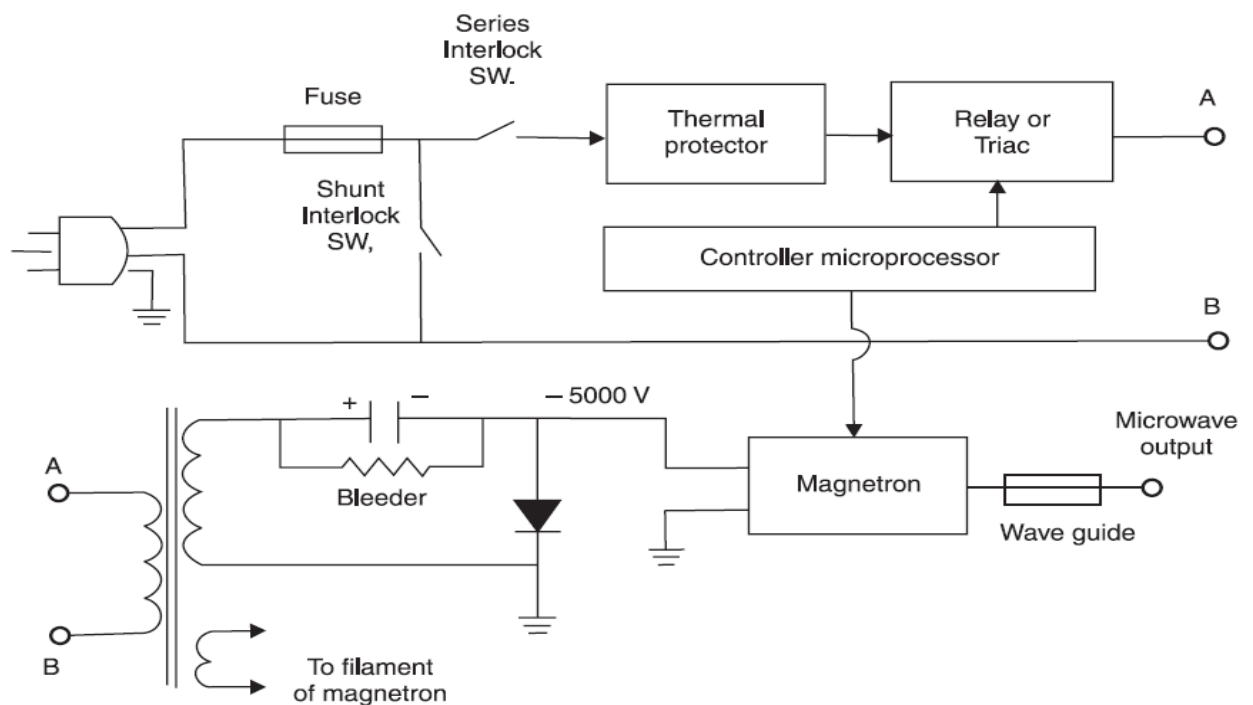

Fig. 1.4 Functional block diagram of a microwave oven
1. The block diagram of a microwave oven is given in Fig. 1.4. The mains plug and socket are three-pin earthing type. The fast blow ceramic fuse is of 15 A, 250 V.